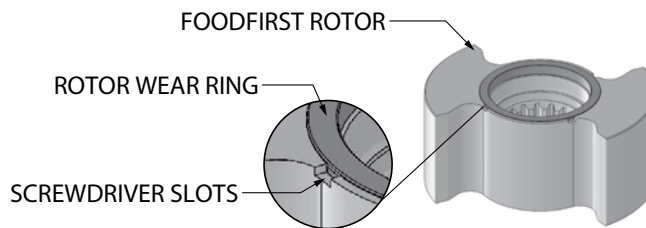

fig. 4.4.5
4.4.1.4.4 FoodFirst Rotor Wear Ring Removal (reference fig. 4.4.5)